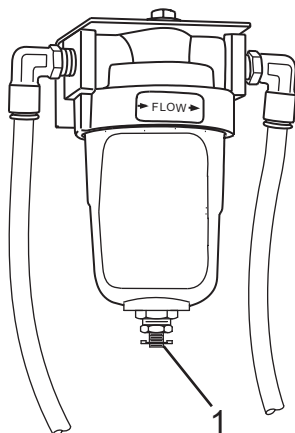

Figure 5
1. Locate the drain fitting (Figure 5, Item 1) on the bottom of the coalescing filter.